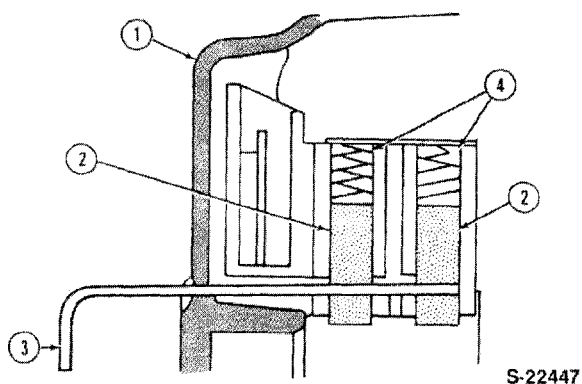

Figure 99
4. Position the brushes into the brush holder and insert a wire as shown, Figure 99, to hold the brushes in a raised position. Install the rotor to the brush holder and remove the wire.